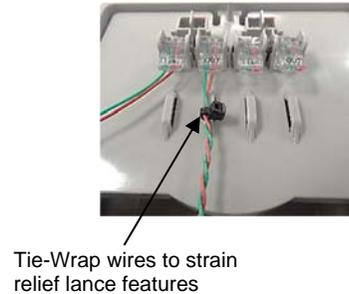

Figure 4
9. To keep wire pairs organized, use tie-wraps to hold any connections and cables to the strain relief lances (See Figure 4).